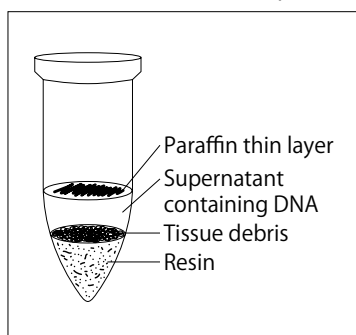

Figure 1
4. Immediately centrifuge the microcentrifuge tube at 12,000 rpm for 10 min at 4°C. (Figure 1) with the microcentrifuge precooled at 4 °C.